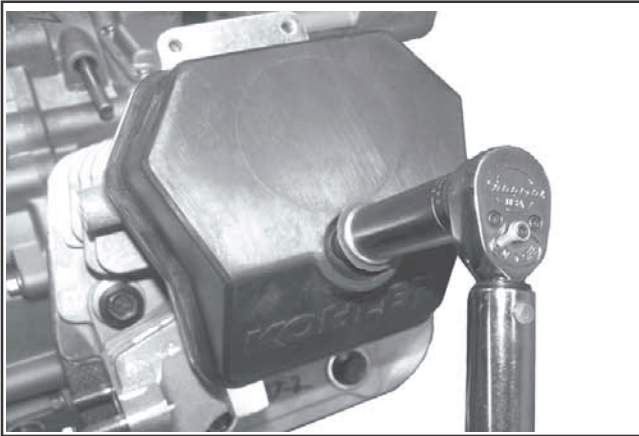

Figure 10-57. Torquing Valve Cover Screw.
5. Check the position of each cover and seal, then torque each screw to 7.9 N·m (70 in. lb.). See Figure 10-57.